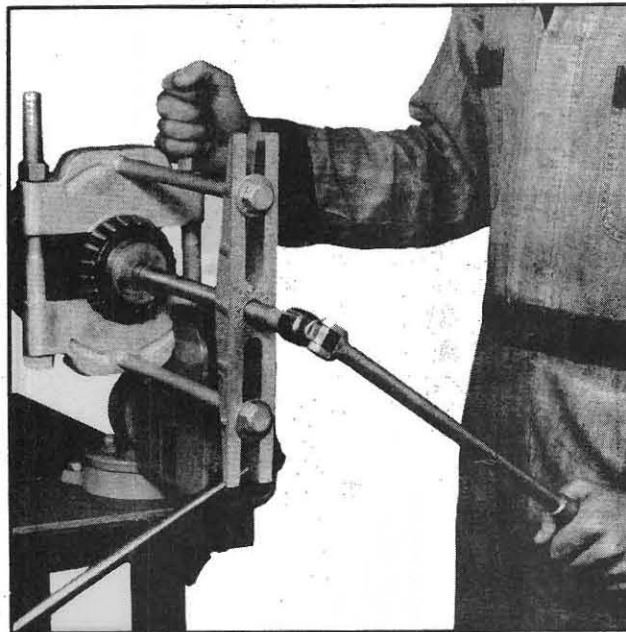

Fig. 255
3. The tapered-roller bearings may be removed from the differential case as shown in Fig.255. Make sure that the bearing splitter contacts the inner race of the bearing if it is desired to save the bearing. If either of the tapered-roller bearings require replacing, the mating bearing cup must also be replaced to maintain the proper preload on the bearings. See page 141 under Rear Axle Assembly for information on replacing the differential support bearing cups.